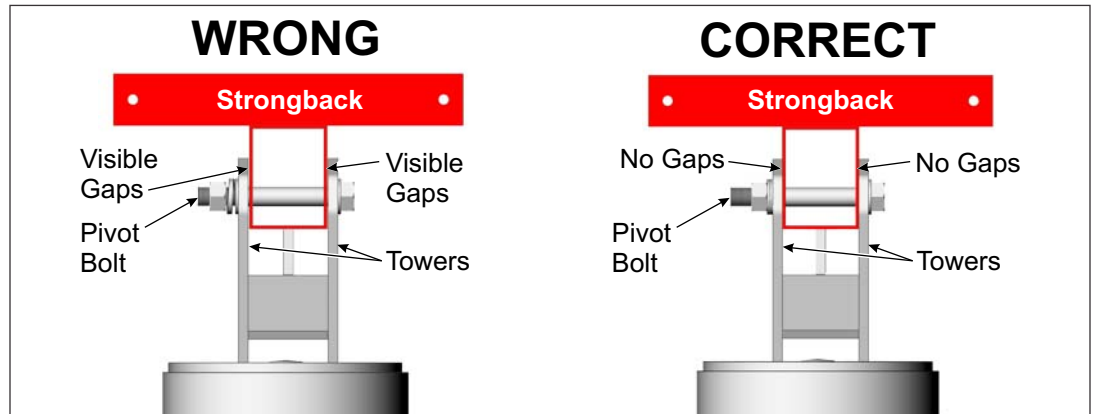

Figure 6-3: Tighten and Torque the Pivot Bolt
- C. Re-tighten the Pivot Bolt. After changing the tilt angle and tightening the Support Bar hardware, the Pivot Bolt must be re-tightened. The Pivot Bolt cannot be left loose - the Mounting Sleeve Vertical Towers must be firmly clamped to the sides of the Strongback eliminating any gaps between the Vertical Towers and the Strongback. **Torque to 125-150+ ft.-lbs. for 3/4" hardware or 330-350 ft.-lbs. for 1" hardware.** (See Figure 6-3)